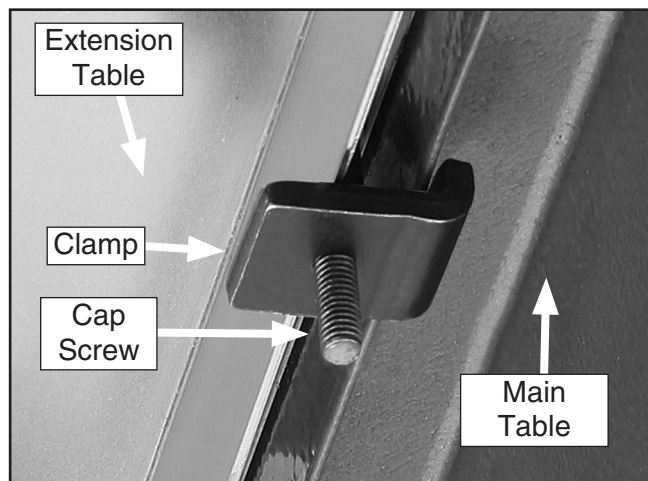

Figure 21. Clamp installation.
5. Fasten the baseboard to the table using the cap screws, flat washers and clamps, as shown in **Figure 21**.